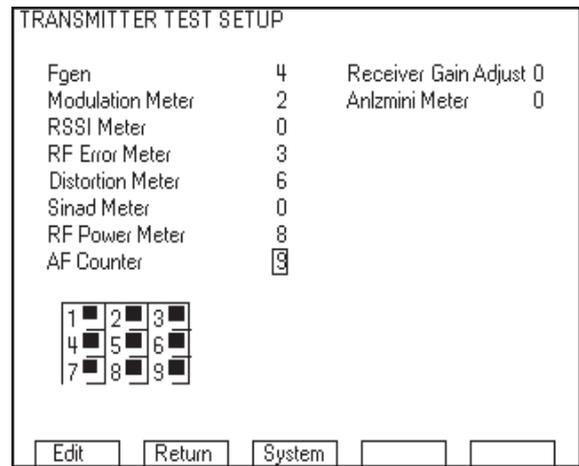

Figure 8 - TRANSMITTER TEST SETUP after changes
9. Now your screen should not look like Figure 8.